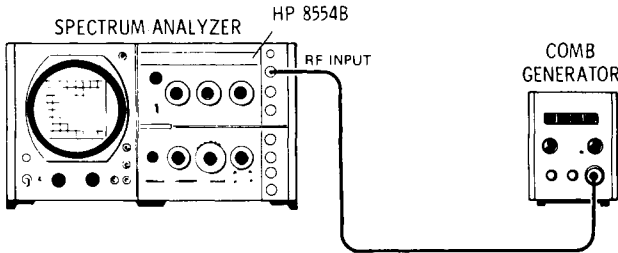

Figure 4-12. Center Frequency Accuracy Test Setup
1. Connect the equipment as shown in Figure 4-12. Make the following control settings: